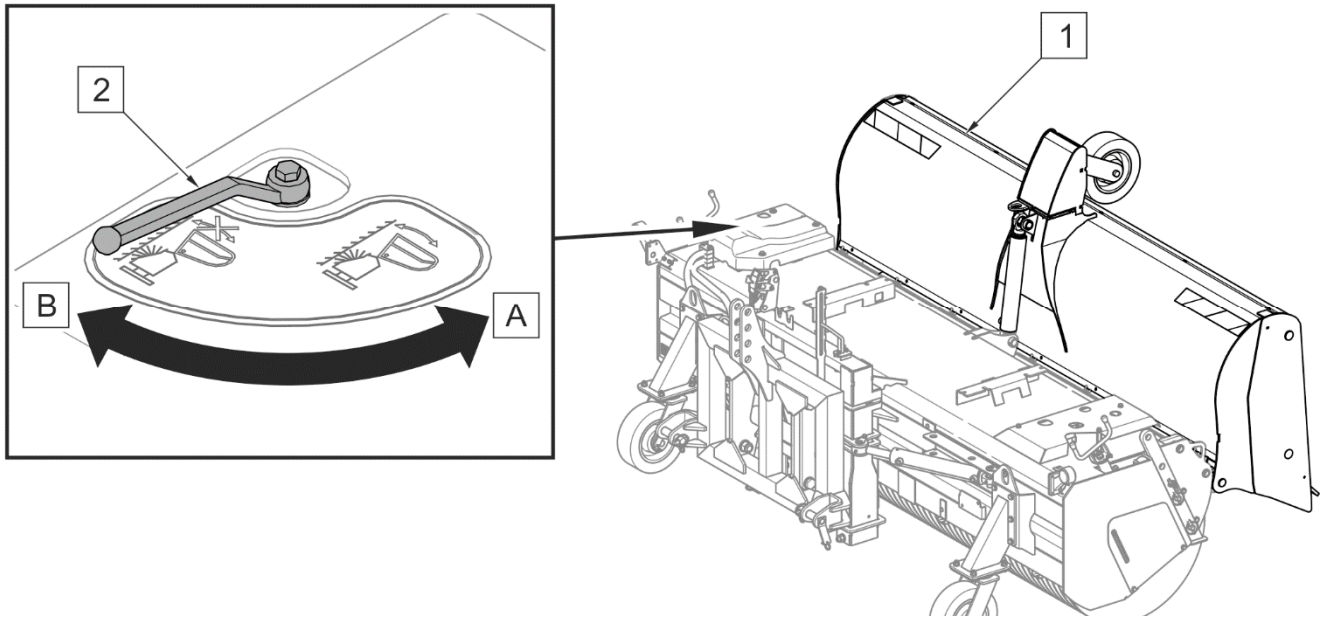

FIGURE 4.16 Waste tank interlock
- Lock the waste tank in the upper position (FIGURE 4.16) by shifting lever (2) to position (B).
Do NOT release the waste tank interlock (2) during the machine operation (FIGURE 4.16).